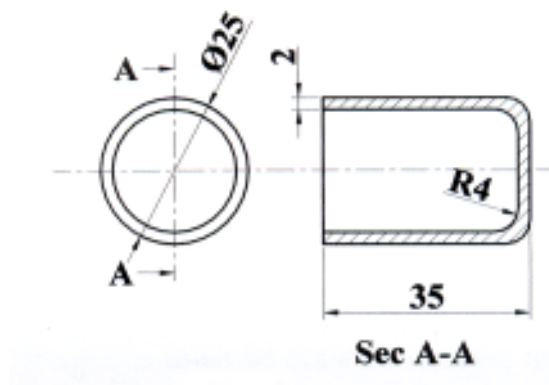

Fig. 3
11. Design a single-impession injection mould to produce the component shown in fig. 3 18